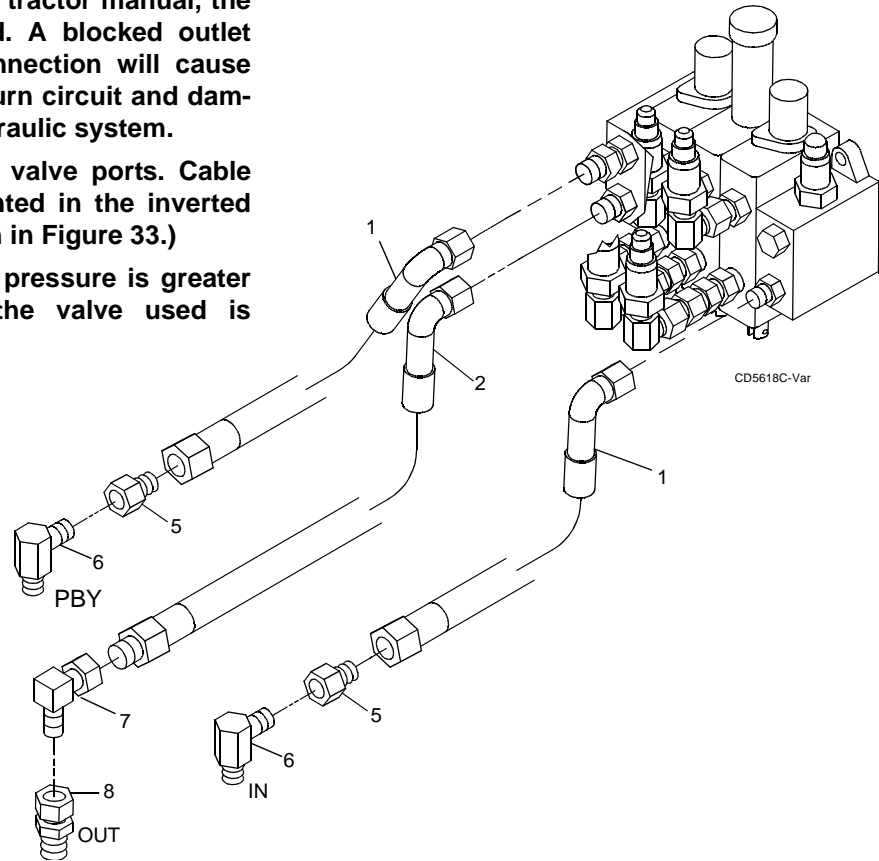
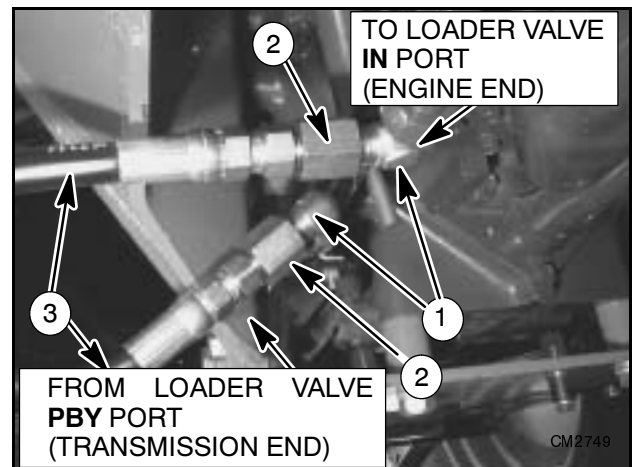

Figure 30 #46047 Hose Kit
Figure 32 Tractor PBY & IN Connections
1. Connect 90-degree end of 100" hose (3) to adapter in valve OUT port. Refer to Figure 30.
3. Refer to Figure 30. Route hose (3) from valve IN port outside the loader mount to elbow (1) installed to the engine end of the hydraulic line as shown in Figure 32.
4. Refer to Figure 30. Route the hose (3) from valve PBY port outside the loader mount to elbow (1) installed in the transmission end of the hydraulic line as shown in Figure 32.